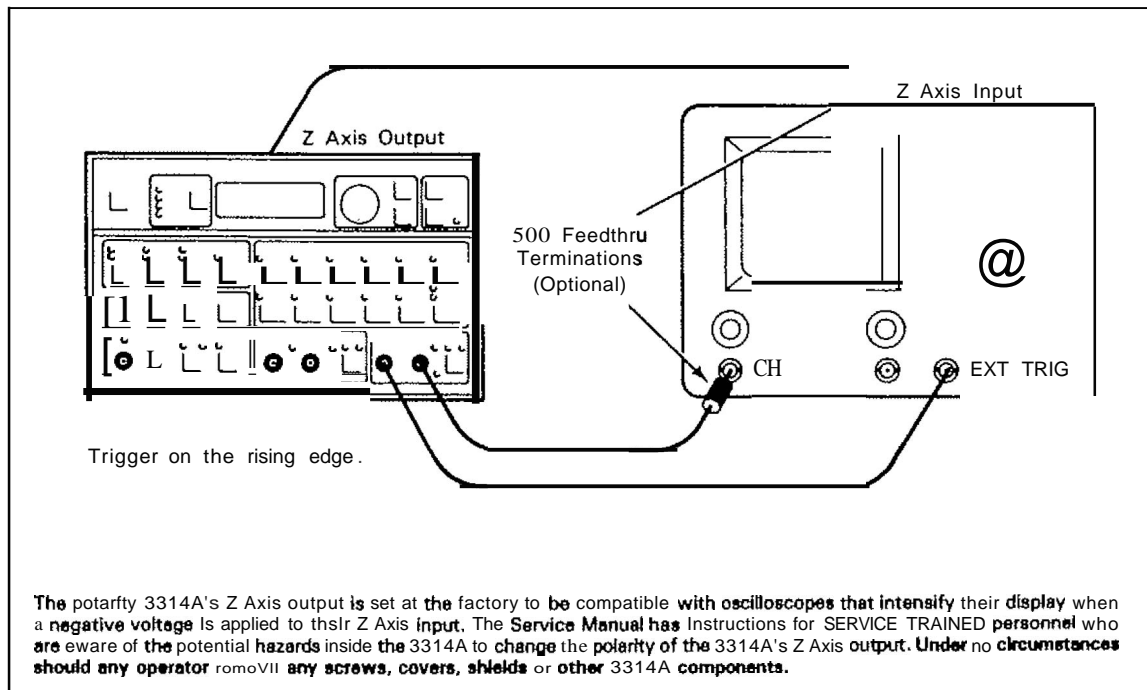

Figure 3. How To Connect An Oscilloscope
3. Connect your oscilloscope as shown in Figure 3. If your oscilloscope Z Axis input requires the opposite polarity than that provided by the 3314A, remember that this signal is helpful but not required.